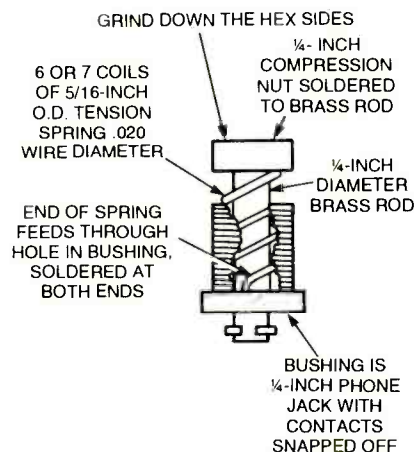

Fig. 5. This is a cut-away view of the Bypass-On-Board switch used in the author's prototype.
**Bypass Switching.** The switch specified for S3 is usually used in instrumentation applications. It provides double-pole, double-throw switching in a push-on/push-off arrangement and is designed to mount directly on the PC board. It is actuated by a BOB (Bypass-On-Board) actuator that can be homemade from common hardware (see Fig. 5). The bushing is a hacked-up ¼-